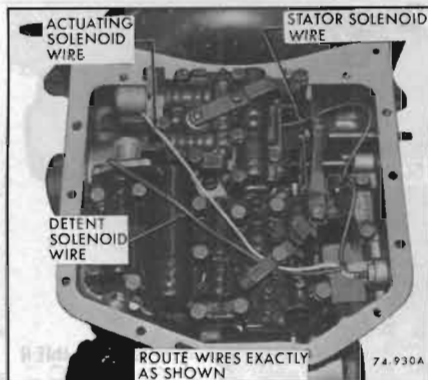

Figure 75-930—Routing of Solenoid Wires
**NOTE:** Route solenoid control wires as shown in Figure 75-930.